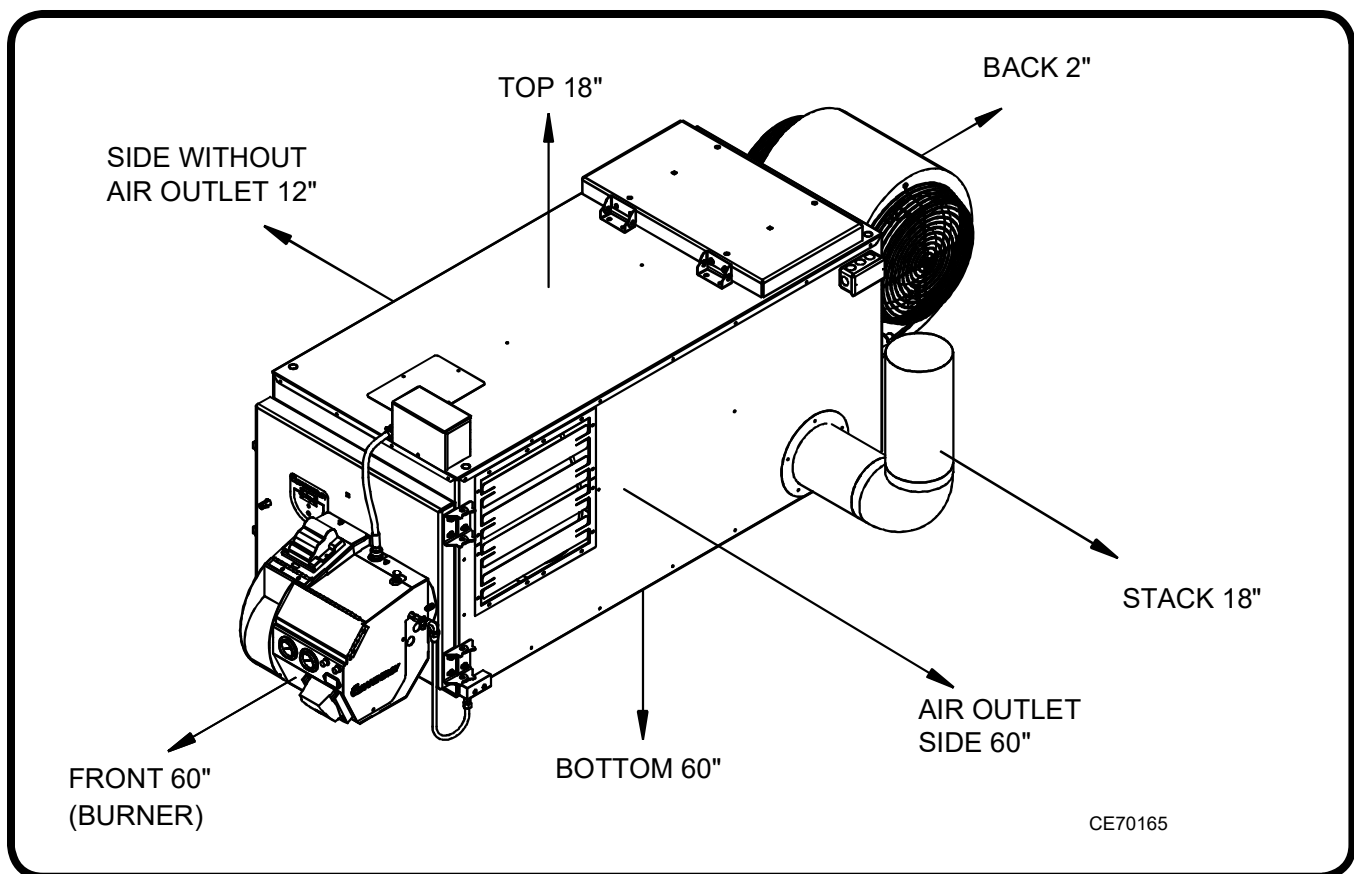

Figure 11: Clearances to Combustible Materials
- (1) Do not obstruct shop personnel or equipment
- (2) Find a location where the warm air will be evenly distributed.
- (3) The installation must meet the clearance to combustible material requirements (Figure 11)
- (4) The location must be safely accessible for maintenance and service
- (5) The installation must comply with all local codes and regulations
- (6) Keep the stack / chimney system simple. A complicated stack with multiple elbows and long horizontal runs will reduce the natural draft of the unit which can damage critical burner components.